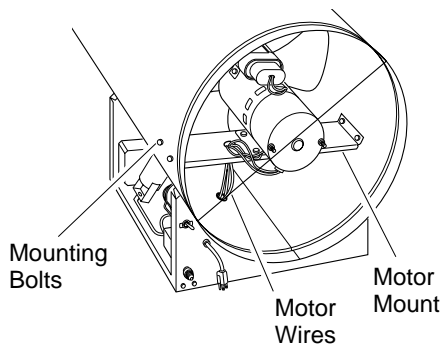

Figure 7 - Location of Fan and Motor
20. Route motor wires through hole in bottom of shell (see Figure 7).